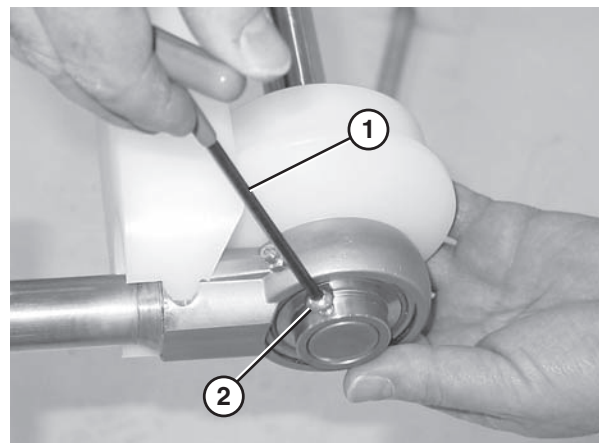

Figure 84
5. Use a hex wrench (Figure 84, item 1) to tighten the bearing shaft fasteners (Figure 84, item 2) to 6 N•m. Check after 24 hours of conveyor use.